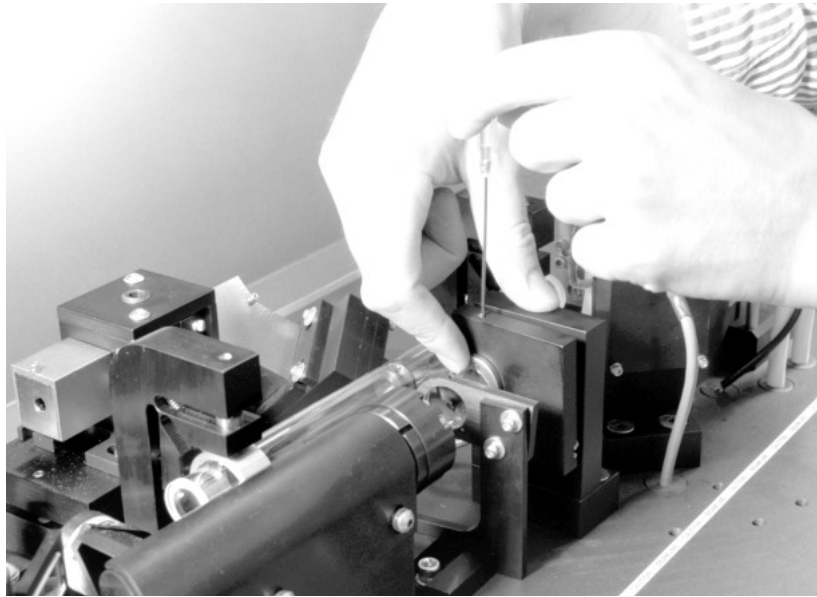

Figure 2.9-1. Alignment of the Quarter Wave Plate
5. While holding the Quarter wave plate in place with a finger, loosen the setscrew securing it to the mount (see Figure 2.9-1). Carefully, while monitoring the intensity of the depolarized light, make small rotational adjustments until the amount of depolarized energy has been minimized.